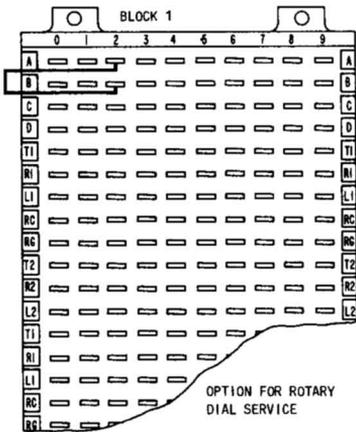

Fig. 12—Z Option
Note: If a 494A KTU is used, a 440A or 478B TOUCH-TONE adapter is not required. (If a TOUCH-TONE adapter is not provided, Z option [Fig. 12] must be applied.)
Note: If a 494A KTU is used, a 440A or 478B TOUCH-TONE adapter is not required. (If a TOUCH-TONE adapter is not provided provide Z option [Fig. 12] must be applied.)
4.10 The Z option (Fig. 12) is required when rotary dial service is provided. It consists of a strap on block 1 of the 626A panel between row A, terminal 2, and row B, terminal 2. The Z option must be removed if the intercom is changed to TOUCH-TONE dialing.